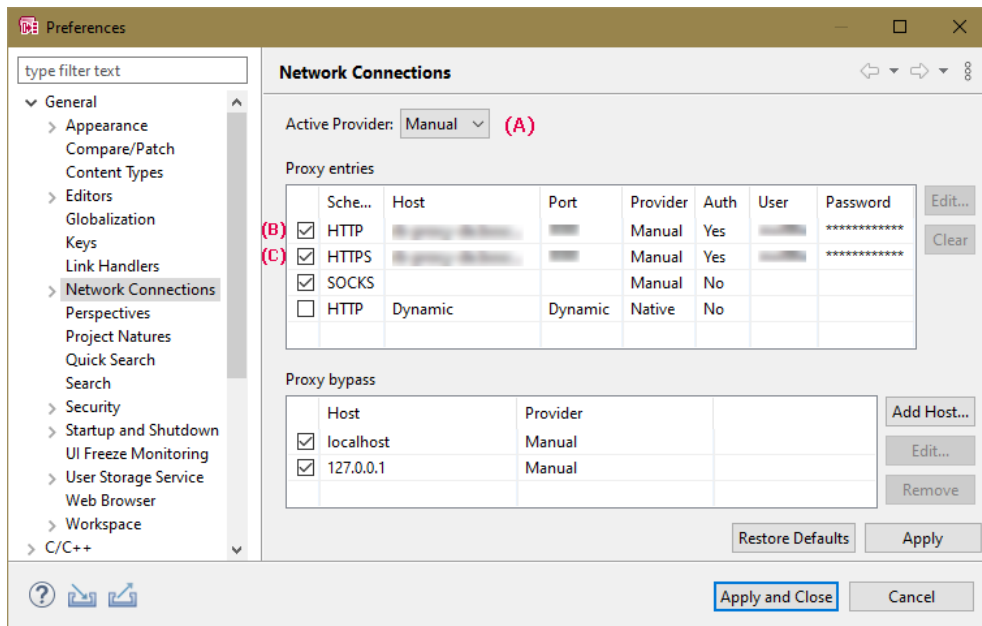

Figure 101. "Preferences" window, "General\Network Connections" node
- i. Set the "Active Provider" to `Manual` (A in Figure 101).
- ii. Select the `HTTP` schema (B in Figure 101) and click the **Edit** button.
- iv. Edit the `HTTPS` (C in Figure 101) schema in the same way.